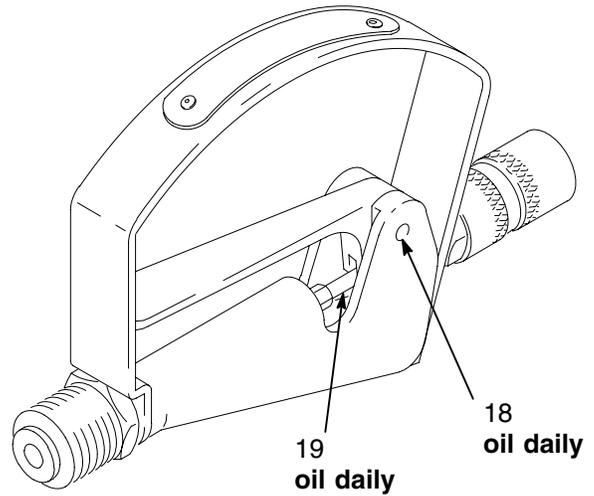

Fig. 4
Oil the exposed part of the valve rod (18) and the trigger pivot (9) daily. See Fig. 4.